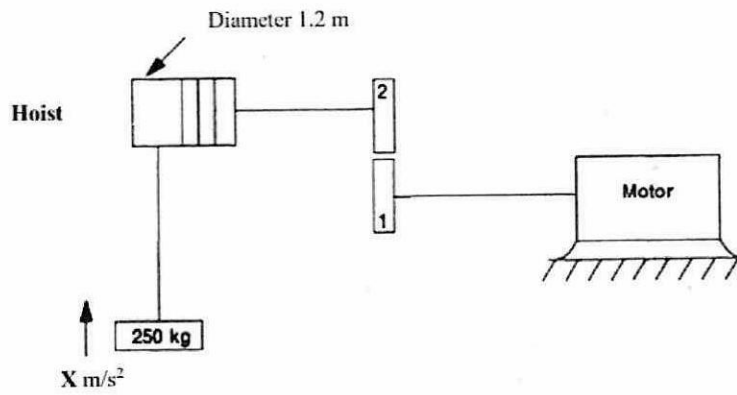
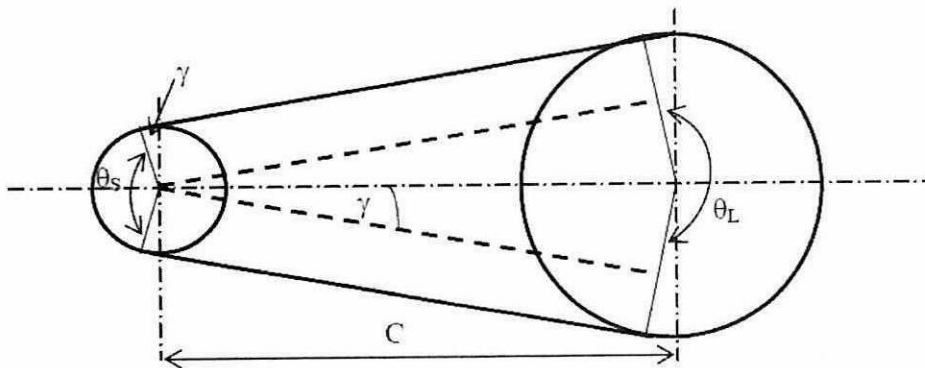
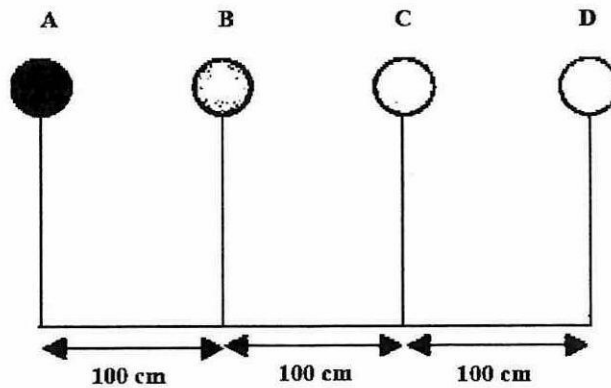

Figure Q1(c)
Figure Q2(c)
Figure Q3(c)
- (c) A motor is accelerating a 250 kg load with acceleration of 1.2 m/s^2 through a gear system as shown in **Figure Q1(c)**. The rope that carries the load are encircled on a hoist with diameter 1.2 m. Gear for the hoist's shaft has 200 teeth, gear for motor shaft has 20 teeth. Gear efficiency is 90%. Mass of motor shaft is 250 kg with radius of gyration of 100 mm while hoist shaft has 1100 kg of mass with radius of gyration of 500 mm. Calculate the torque of the motor needed to bring up the load with acceleration 1.2 m/s^2 . Neglect friction effect. (10 Marks)
- Q2** (a) Explain **three (3)** advantages of flat belt and **three (3)** advantages of V-belt. (6 Marks)
- (c) As shown in **Figure Q2(c)**, a multiple V-belt drive with a groove angle of 40° is required to transmit 30 kW from a pulley 180 mm in diameter to another pulley 300 mm in diameter rotating at 210 rev/min. The coefficient of friction between the belt and the pulley is 0.30 and the maximum permissible belt tension is 1000 N for each of the ten belts used.
- Q3** (a) Explain the static and dynamic balancing and provide **two (2)** examples of each. (6 Marks)
- (c) **Figure Q3(c)** shows four masses A, B, C and D are to be completely balanced at radius 120 mm, 150 mm and 180 mm and 210 mm respectively. Mass B, C and D are 20 kg, 15 kg and 5 kg. The planes which the mass revolve are spaced 100 cm apart. Find the required mass A and the angular settings relative to a plane so that the shaft is in complete balance. (12 Marks)